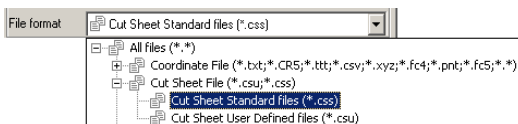

Figure 3-87. Cut Sheet File Format
- Select the File format (Figure 3-87).